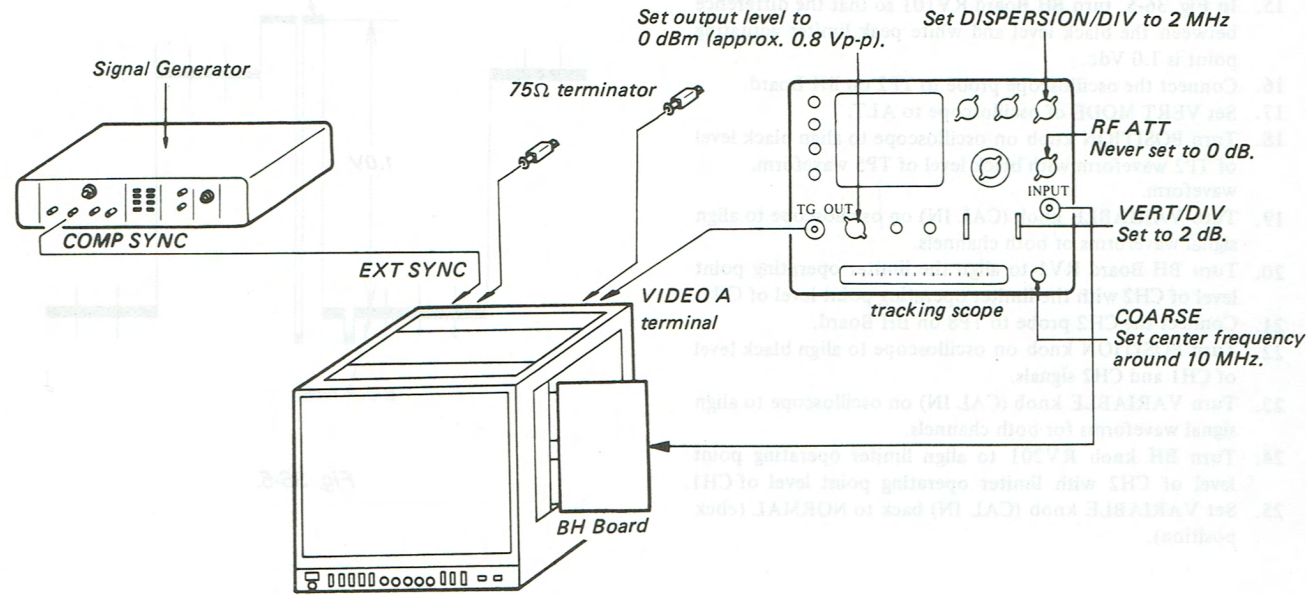

Fig. 37-1.
1. After calibrating the probe, connect as shown in Fig. 37-1.